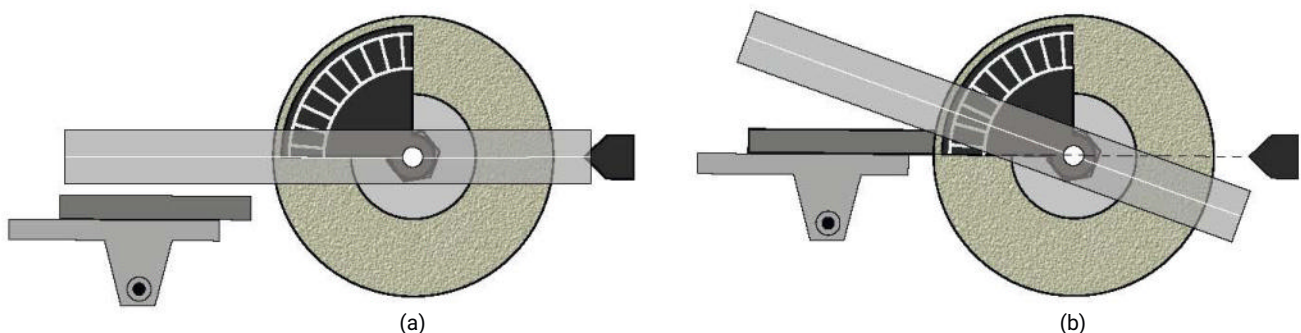

Figure 4. Stages in setting clearance angle
initially to be set to the horizontal, the procedure is as follows, see **fig. 4**.
- 1) Set the ruler horizontal with the aid of the guide on the right, and rotate the sector plate so that its bottom edge is horizontal, as shown in fig. 4(a).
- 2) Adjust the tilt of the table (or more importantly the tool bit) so that it is parallel to the ruler, fig. 4(a).
degrees, as per the previous example), interpolating between the graduations on the sector plate, as shown in fig. 4(b).
- 4) Move the table vertically and horizontally until the tip of the tool touches the edge of the wheel at the point indicated by the ruler, fig. 4(b).